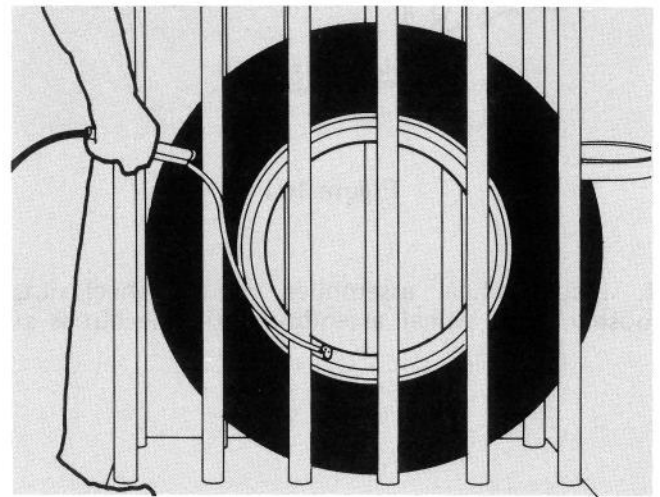

Figure 103
ALWAYS inflate tires in a safety cage, enclosed on all sides, including top or use a portable safety device. Use extension hose with gauge and clip-on chuck so that operator may stand aside during inflation (Fig. 103).
7. Stand tire inside safety cage, install clip-on chuck and insure inflation hose is long enough to allow you to stand to the side of tire (Fig. 103).